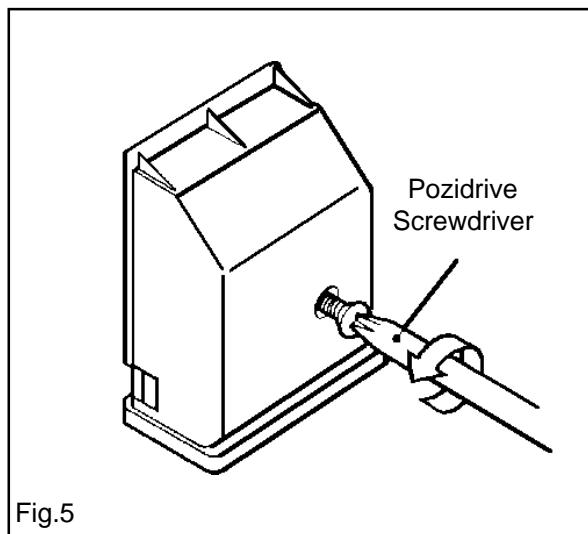

Fig.5
- First remove retaining screw with pozidrive screwdriver. See Fig. 5.